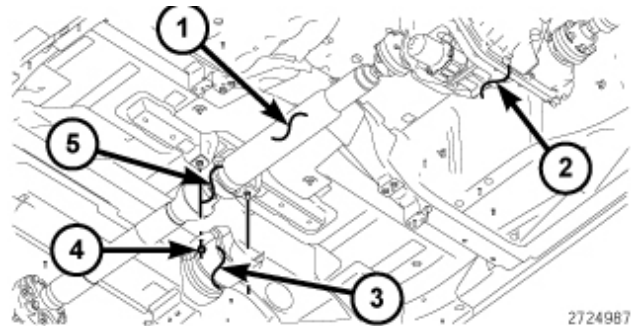

Figure 13 – Center Bearing Heat Shield
31. Remove the heat shield (3) from the center bearing (Figure 13).